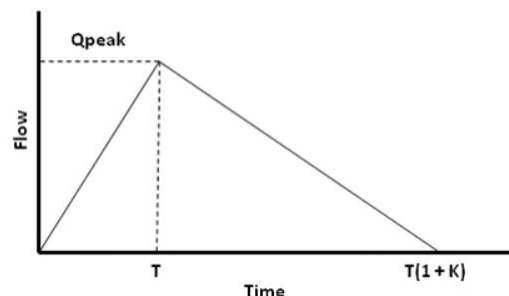

Figure 4: RTK parameters of a UH.
4. Each unit hydrograph, as shown in **Figure 4**, is defined by three parameters: